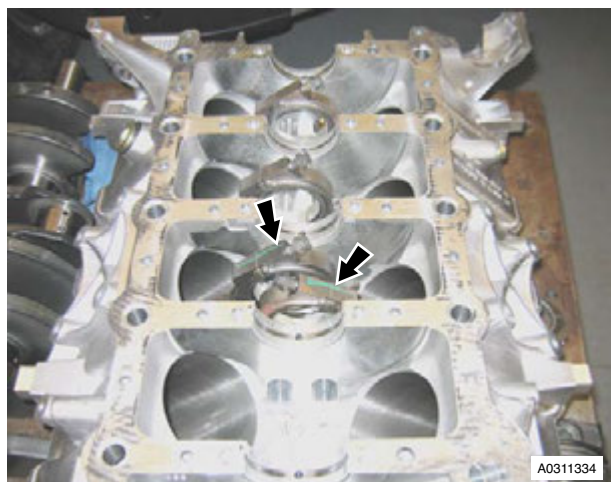

Figure 5
24. Note fitted position and remove crankshaft thrust washers (x2) from cylinder block (see Figure 5).